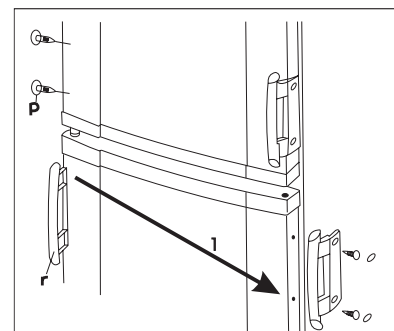

fig. 4.
- Put over the handles (r) on the other side and put the plastic covering nails (p) supplied in the plastic bag of this instruction book into the holes set free. (fig.4)